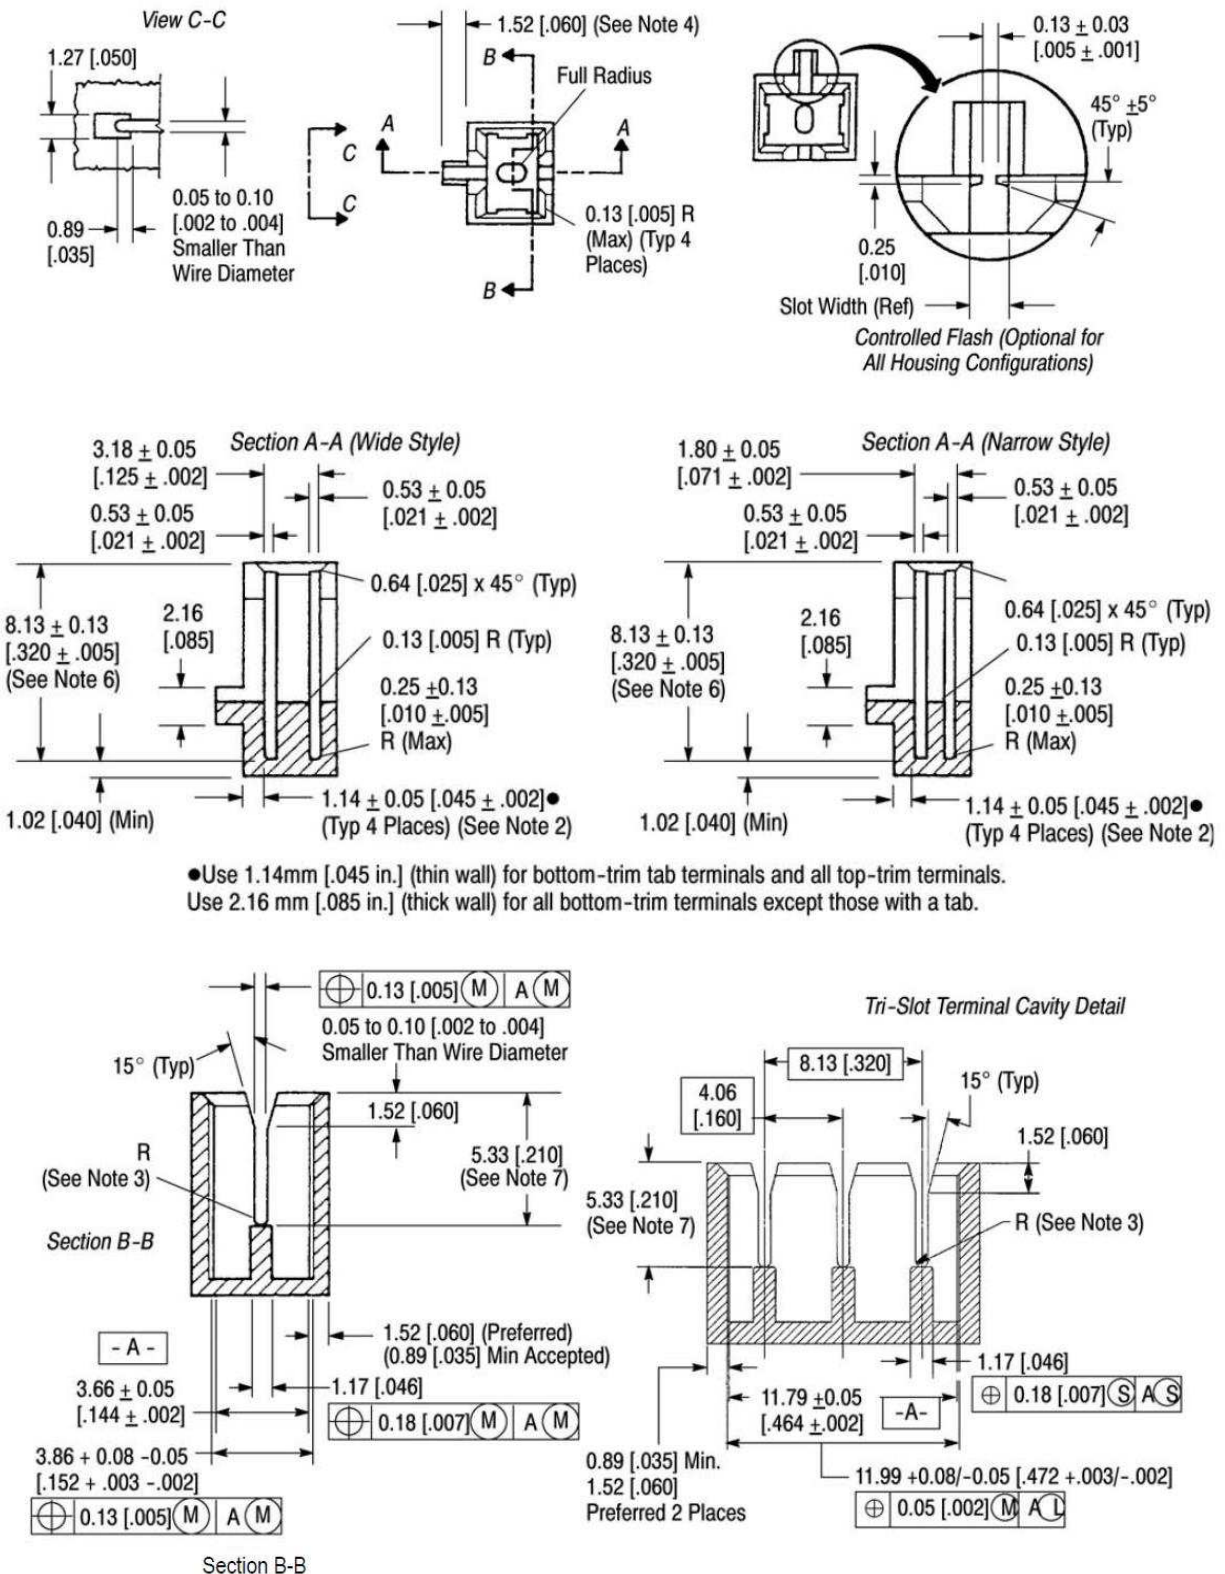
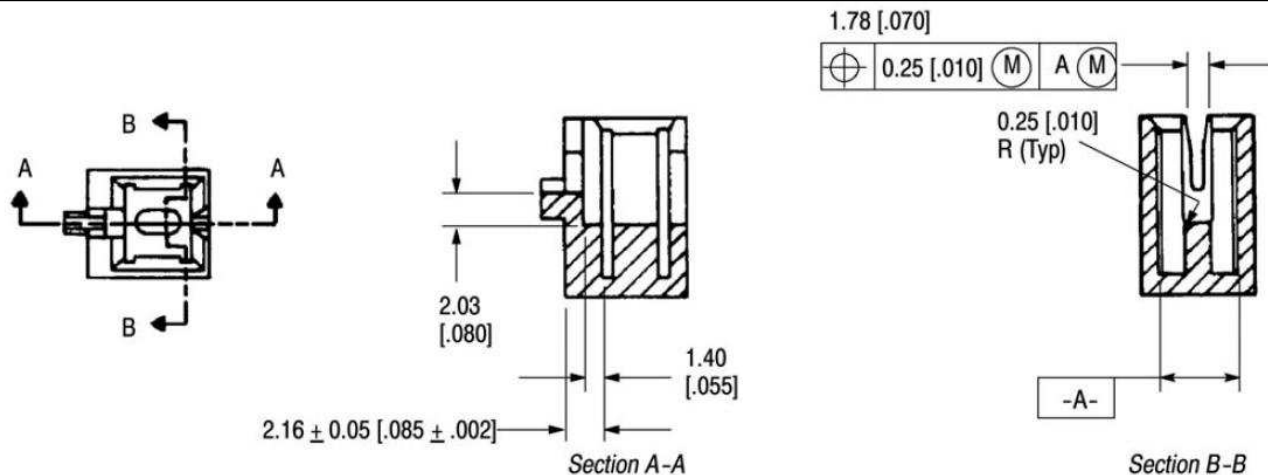
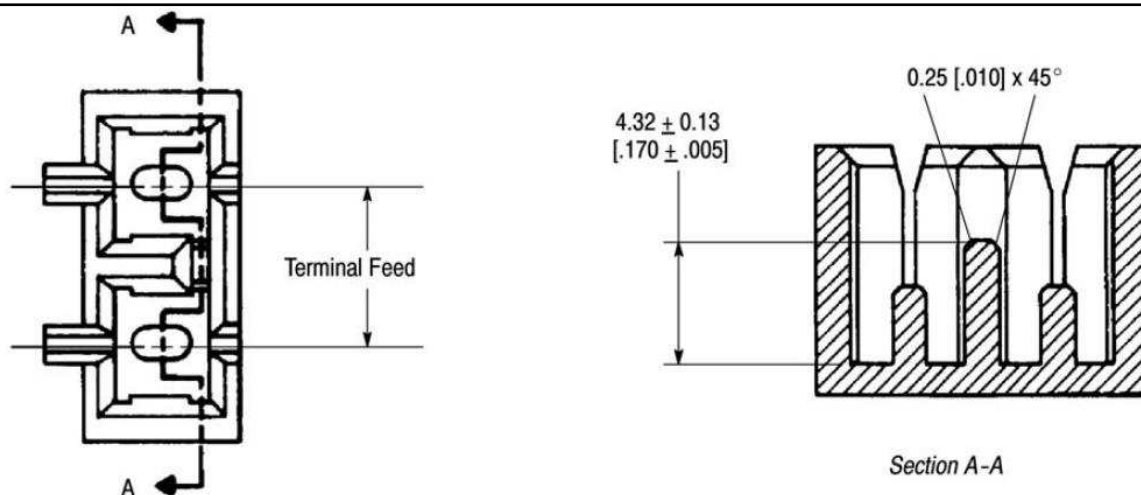
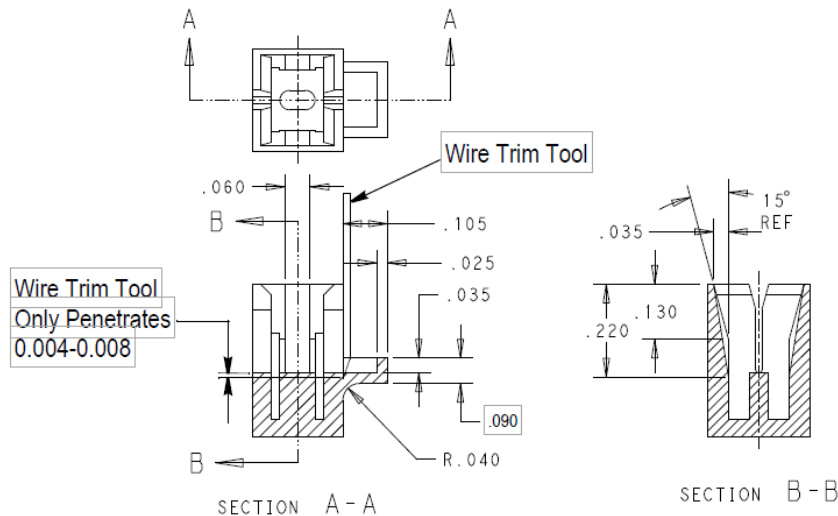

Figure 3
Figure 4
Figure 5
Figure 6
The external design of the housing will depend on your requirements. Internal cavity designs must conform to the dimensions provided in Figure 3, Figure 4, and Figure 5. Pre-design consultation with TE Engineering is necessary to be sure the cavity configuration will be functional and that it will be compatible with automatic insertion machines.
The following Notes apply to the housings shown in Figure 3:
- (1) *Housings must be glass-filled polyester material or approved equivalent.*
- (2) *The wire trim side of the housing shall have an even thickness to prevent damage to the housing when trimming excess wire.*
- (3) *Coil windings and other components must not extend above the wire slot or otherwise obstruct seating of the terminal or wire.*
- (4) *The housing must have a wire trim support if automatic machine insertion is used. It is not necessary for the housing to have a wire trim support if inserting the wire with a hand insertion tool.*
- (5) *The wire slot may have a controlled flash to provide retention and stability for a broad range of wire sizes.*
- (6) *For poke-in wire applications: depth of beam slots may be increased to conform with electrical spacing requirements, and strain relief for wire is recommended.*
- (7) *The given dimension is for a single wire application. The dimension may change for double wire application, in which case, see Customer Drawing of terminal.*
- (8) *Controlled flash may be used at wire end. See CONTROLLED FLASH detail, Figure 3.*
- (9) *Features that include draft must maintain the dimension and tolerance over the entire length of that feature.*
This housing design has a wire support above the anvil that allows the wire to be cut before the terminal is fully seated. As the terminal is seated, it pulls the wire end down and conceals it in the pocket behind the wire support. All the dimensions given for the exposed wire end cavity in Figure 3 apply, except for those that appear in Figure 4.
Multiple cavity housings can be made with exposed or concealed wire ends and wire slots with or without controlled flash as defined by the dimensions in Figure 3 and Figure 4. They can also be made to accommodate commoned terminals by using a shorter wall between cavities. See Figure 5.
For applications involving termination of aluminum magnet wire, it is often necessary to apply a protective gel to exposed bare wire at the IDC interface and wire trim areas. The housing option shown in Figure 6 includes enhanced lead-in to facilitate injection of gel down inside the terminal to coat the IDC interface areas. Also shown is a special wire trim tray option where the excess magnet wire can be trimmed off and still leave a tray for application and retention of gel at the exposed wire end. If there is no room for a wire trim tray, the concealed wire end option as shown in Figure 4 also provides a good solution. All the dimensions in Figure 3, Section A-A and B-B apply except for those that appear in Figure 6.